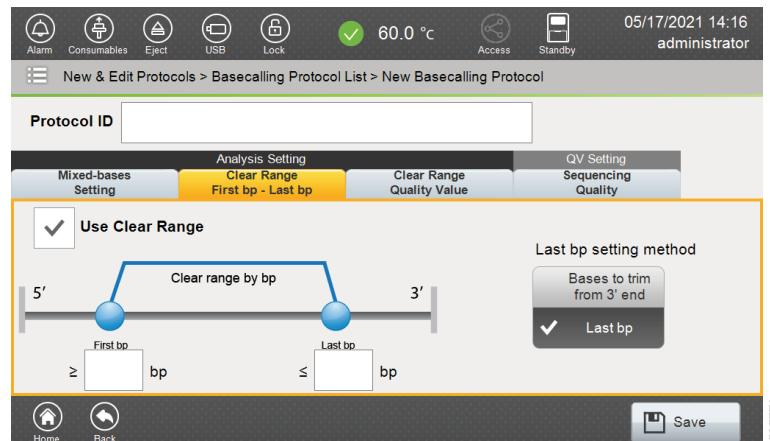
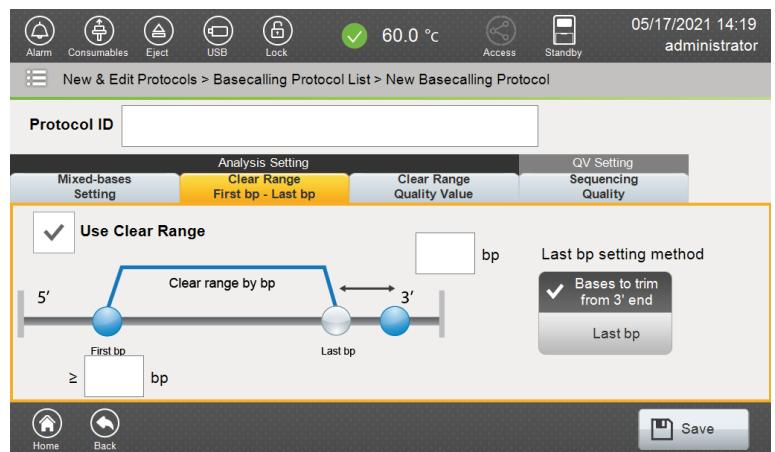

Figure 123. 'Use Clear Range': Last bp view.
Figure 124. 'Use Clear Range': Bases to trim from 3' end view.
Clear Range First bp–Last bp	<p>Checking the “Use Clear Range” box enables the user to define the first and last bp using the fields in the clear range diagram (Figure 123 and Figure 124).</p> <p>Note: When creating a new Basecalling Protocol, the default setting for Clear Range First bp–Last bp is disabled (box unchecked).</p> <p>When using the ‘Clear Range First bp–Last bp’ method in the basecalling protocol, the first bp position to be considered for analysis is set by entering the 5’ bp position in the ‘First bp’ field. For the 3’ end point (last bp position to be considered for analysis), two last bp setting methods are available for setting the 3’ end of the clear range:</p> <ul style="list-style-type: none"> • Last bp: Enter the final base in the sequence to be considered for analysis (enter 3’ bp position in ‘Last bp’ field) (Figure 123). • Bases to trim from 3’ end: Trims the specified number of bases from the 3’ end of the sequence run to determine the last bp to consider for analysis (enter number of bases to trim in ‘bp’ field) (Figure 124). <p>Minimum and maximum values allowed by software for ‘First bp’, ‘Last bp’ and ‘Bases to trim from 3’ end’ fields are 1bp and 1200bp, respectively.</p>
5. Check the "Use Clear Range" box to activate the buttons for choosing the setting for first and last base (Figure 123). When this is enabled, the first bp position to be considered for analysis is set by entering this value in the 'First bp' field. The default 3' base setting is Last bp (e.g., if set to 700bp, any bases after the base pair number 700 will not be analyzed). Enter the desired values to specify the first and last bases of the sequence to consider for analysis.
6. Select **Bases to trim from 3' end**. When this is enabled, the first bp position to be considered for analysis is set by entering this value in the 'First bp' field. The number of bases to trim from the 3' end of the sequence is entered into the 'bp' field (Figure 124). Under this setting the last base considered for analysis would depend on the length of sequence obtained.